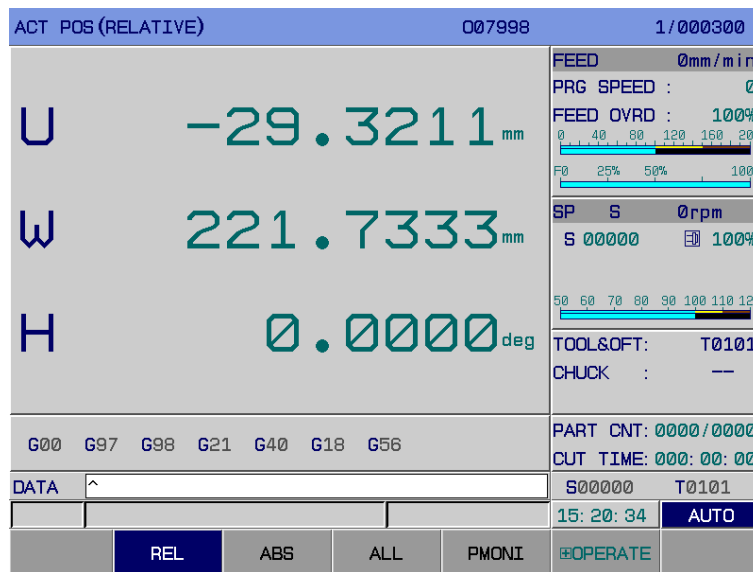

Fig. 3-1-3-1
1) Enter any page that displays the relative coordinates (Fig. 3-1-3-1);